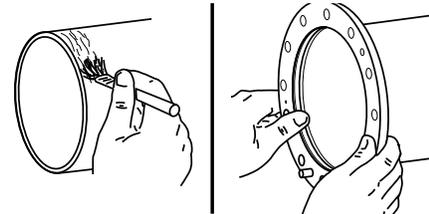

Figure 8
7. Apply solder flux to the outer end of the outer conductor and seat the flange onto the outer conductor (Figure 8).